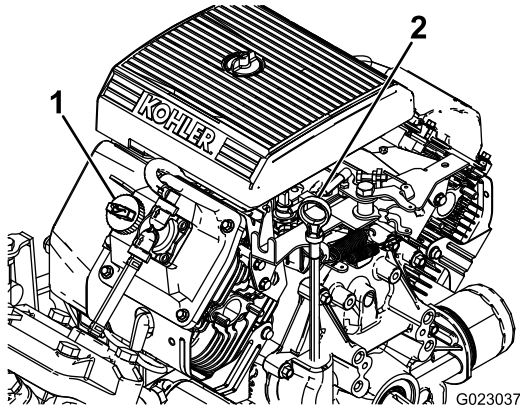

Figure 10
2. Remove the dipstick and wipe it with a clean rag (Figure 10).
4. If the oil level is low, remove the filler cap from the valve cover (Figure 10) and pour oil into the opening until the oil level is up to the FULL mark on the dipstick; refer to Servicing the Engine Oil \(page 46\) for the proper oil type and viscosity.